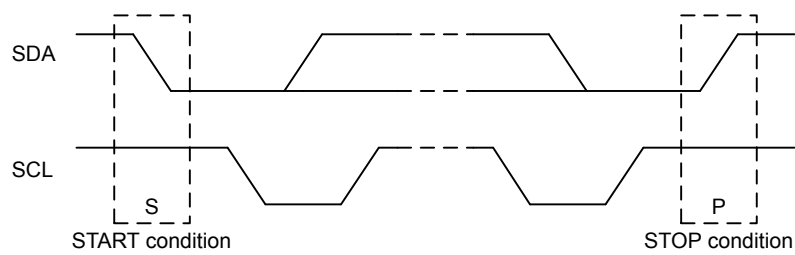

Figure 23.4. I2C START and STOP Conditions
START and STOP conditions are used to initiate and stop transactions on the I²C-bus. All transactions on the bus begin with a START condition (S) and end with a STOP condition (P). As shown in Figure 23.4 I2C START and STOP Conditions on page 678, a START condition is generated by pulling the SDA line low while SCL is high, and a STOP condition is generated by pulling the SDA line high while SCL is high.